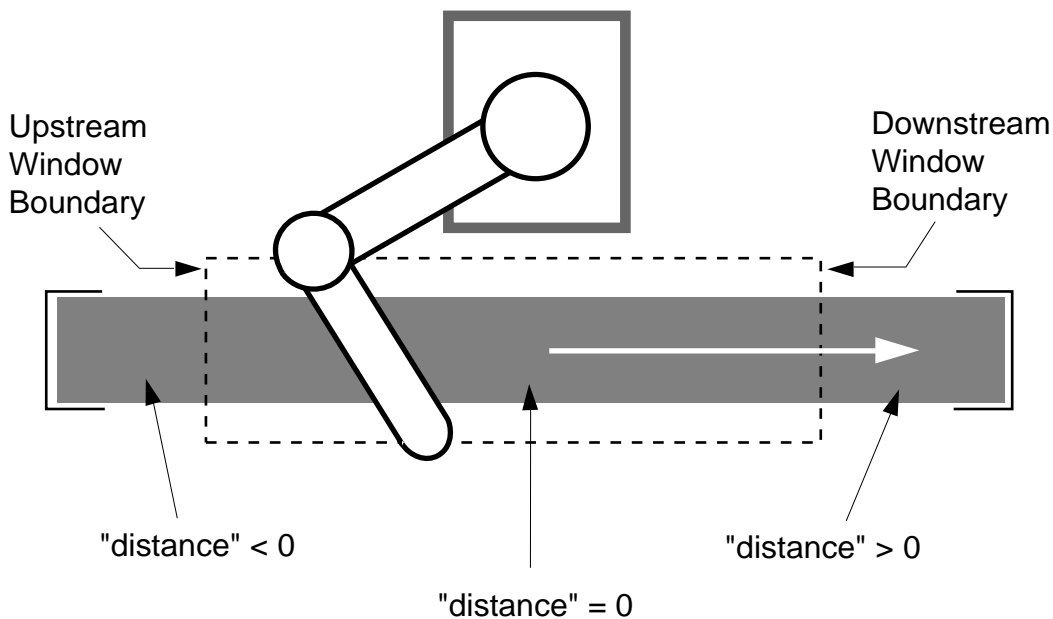

Figure 2-7. WINDOW Function for Mode Greater Than Zero
2. If the value of the mode expression is *greater than zero*, the value returned is interpreted as follows (see Figure 2-7):